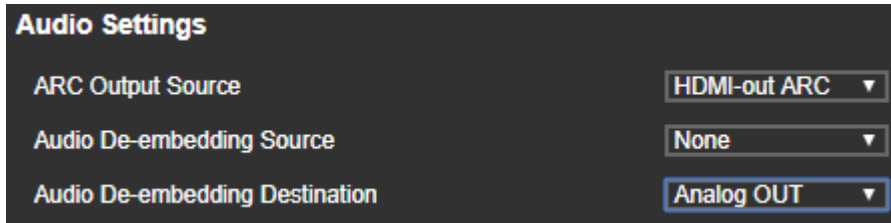

Figure 18: TP-594Rxr Video and Audio Page – Setting HDMI-out ARC
2. Define the ARC signal source on **TP-594Rxr** (see Defining the ARC Source on page 16), **HDMI-out ARC** in this example (Figure 18).